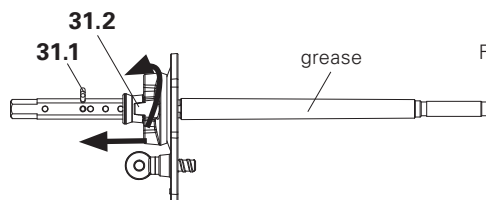

Fig. A5.05
- Turn nut (31.2) to the cotter pin. (Fig. A5.05)